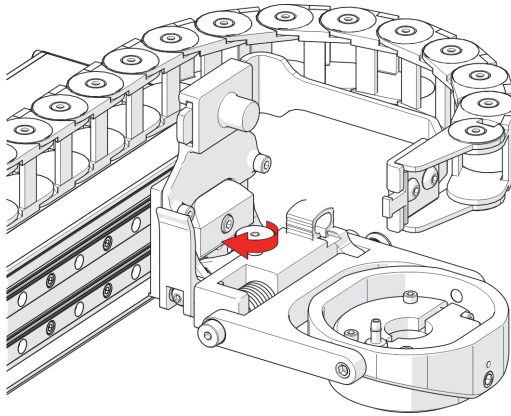

Figure 2-93 Tighten knob
5. Tighten the probe holder adjustment knob (see Figure 2-93 on page 117).